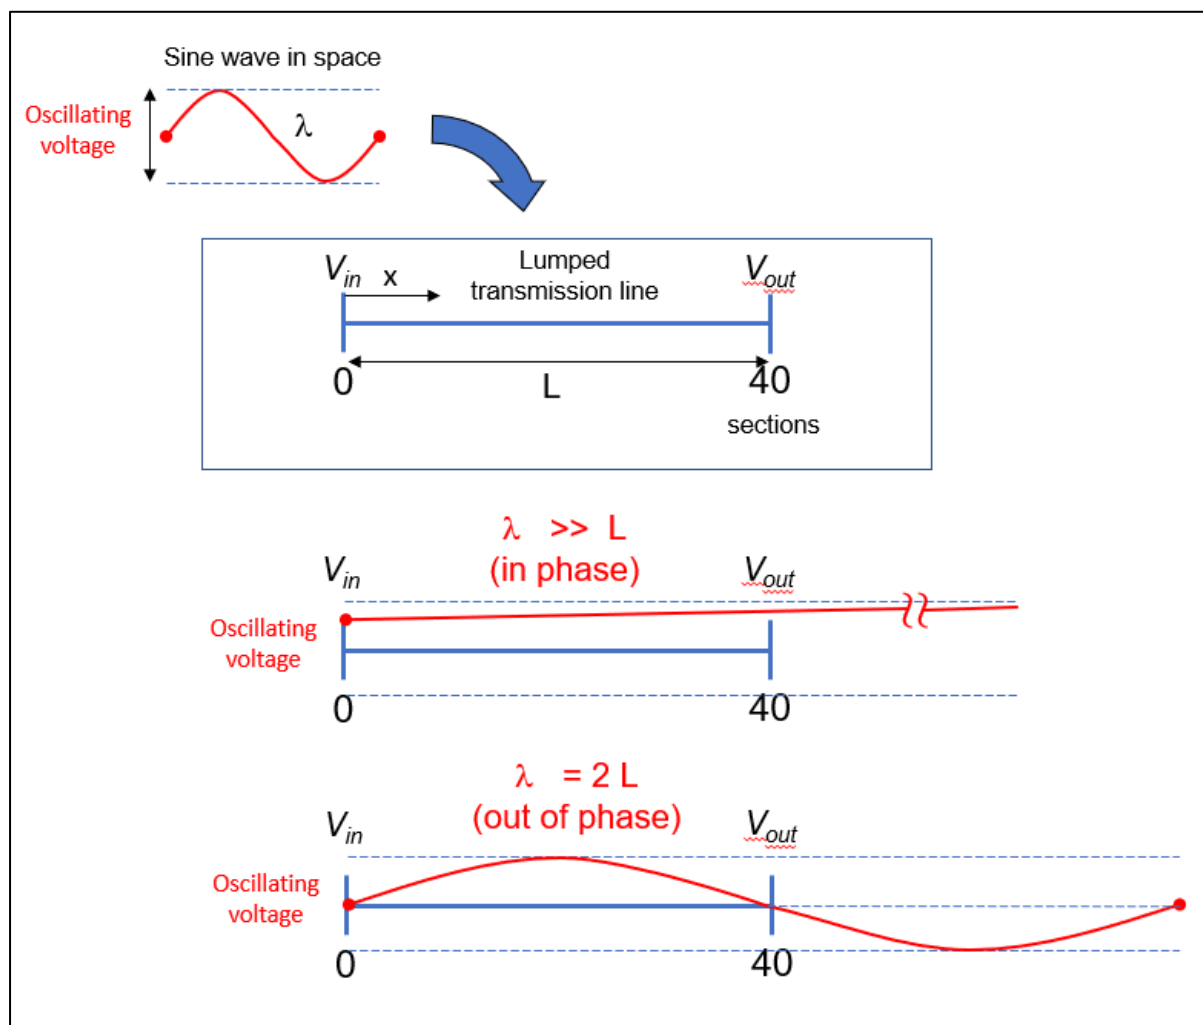

Fig. 3.7: Schematic diagram showing a wave with a variable wavelength λ sent through a transmission line with length $L = 40$ sections.
wavenumber in terms of the 'distance' between those two points. This is shown schematically in Fig. 3.7.
- Using the sketch in Fig. 3.7, find a general expression for the wavelength λ_n , as a function of the length of the line and whether the wave is in or out of phase. From this, calculate an expression for the wavenumber k_n .